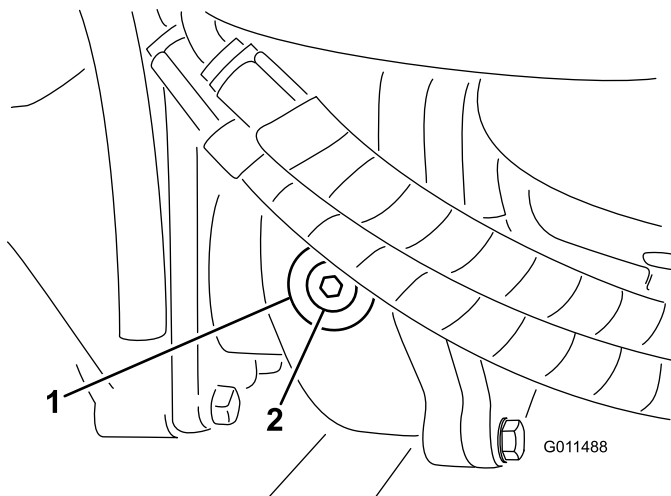

Figure 14
2. Remove the check/fill plug from the left side of the gear box (Figure 14) and make sure that lubricant is up to the bottom of the hole. If the level is low, add enough lubricant to bring the level up to the bottom of the hole.